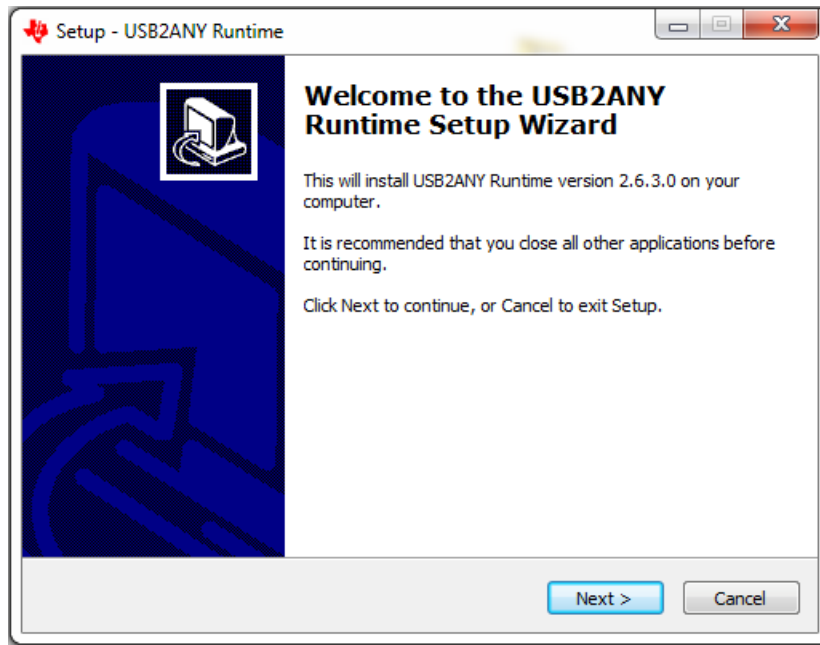

Figure 18. USB2ANY Installation Initialization
- A screen as shown in Figure 18 appears, click the *Next >* button to proceed.